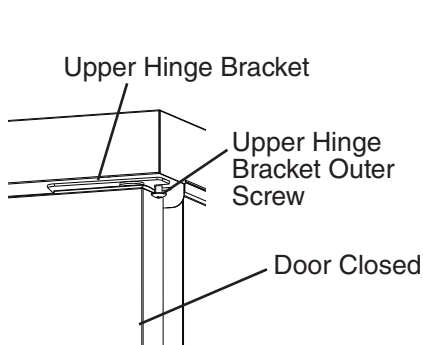
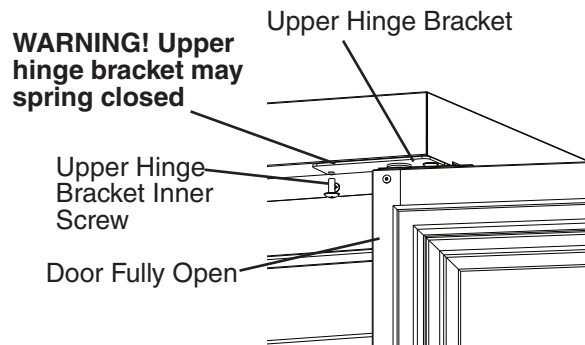

Fig. 23
Fig. 24
- 9) With the door closed, loosen, but do not remove, the upper hinge bracket outer screw. See Fig. 23. Next, open the door to the fully open position and remove the upper hinge bracket inner screw. See Fig. 24.